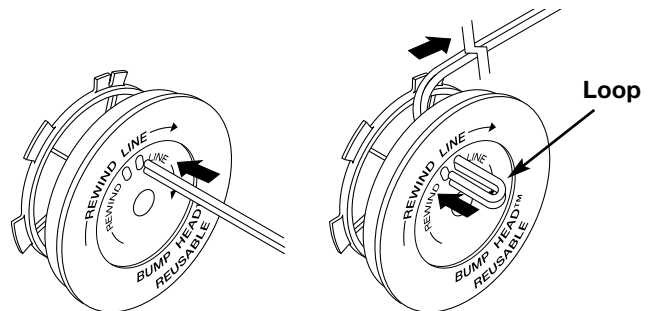

Figure 24
- Take approximately 12 feet (3.65 m) of new trimming line. Insert one end of the line through one of the two holes in the inner reel. Pull the line through the inner reel until only about 4 inches is left out. See Figure 24.
- Insert the end of the line into the open hole in the inner reel and pull the line tight to make the loop as small as possible, See Figure 24.